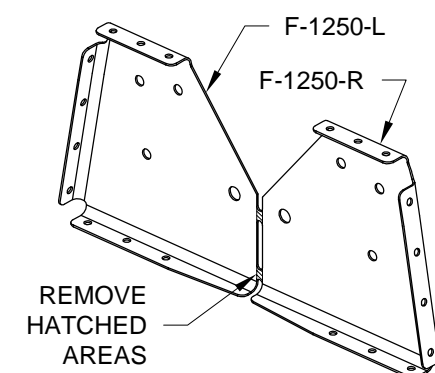

FIGURE 2: SEPARATING F-1250
Step 6: Separate F-1250 by removing the hatched areas shown in Figure 2.